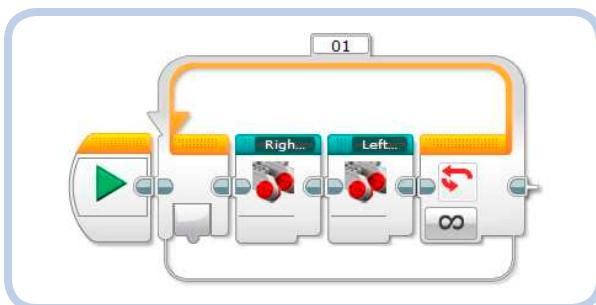

Figure 10-6: The program after creating both My Blocks
7. Click **Finish** to create the block. The program should look like Figure 10-6. Much cleaner, isn't it?